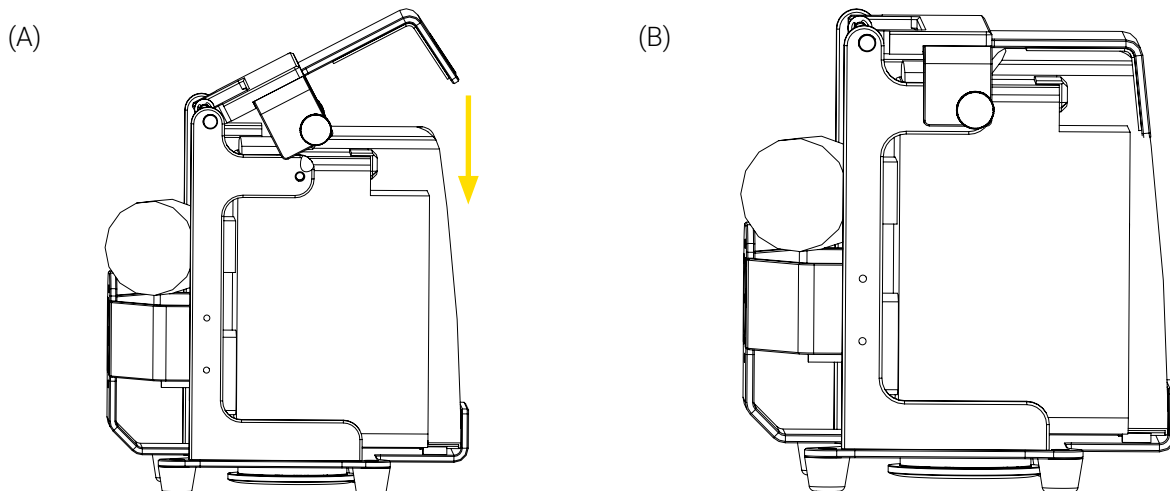

Figure 5: Plum 360 installed in the Bracket Pro Serie 221
4. Lower the top over the infusion pump (Figure 5 A), then press down on the top until you hear the click sound of the quick release mechanisms inserting in the bracket (Figure 5 B).